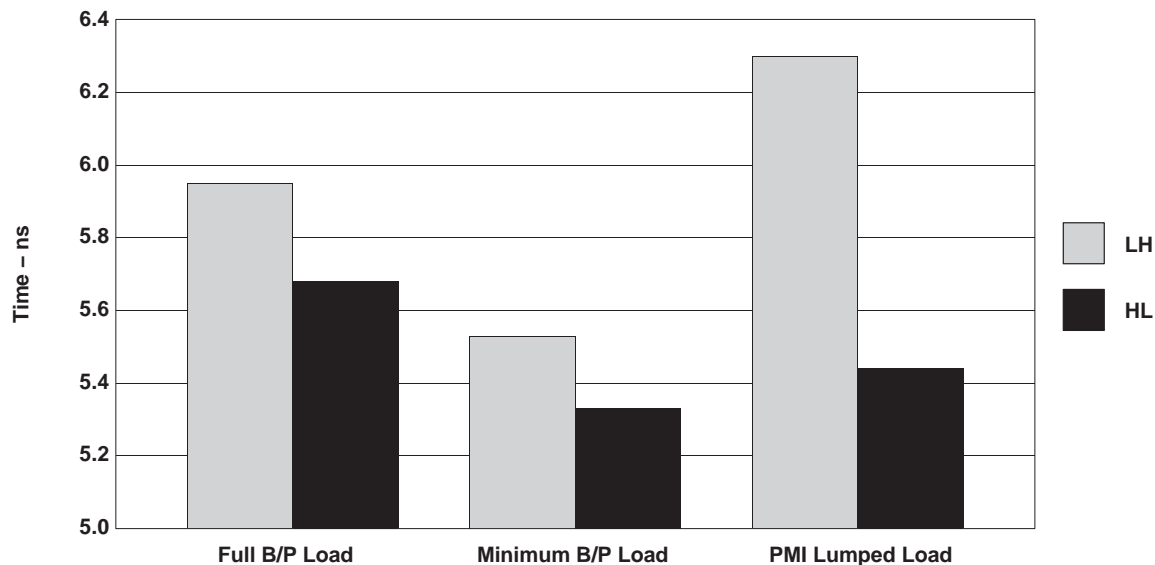

Figure 5
In general, the rise- and fall-time distribution is shown in Figure 5. Since VME devices were designed for use into distributed loads like the VME64x backplane (B/P), there are significant differences between low-to-high (LH) and high-to-low (HL) values in the lumped load shown in the PMI (see Figures 1 and 2).